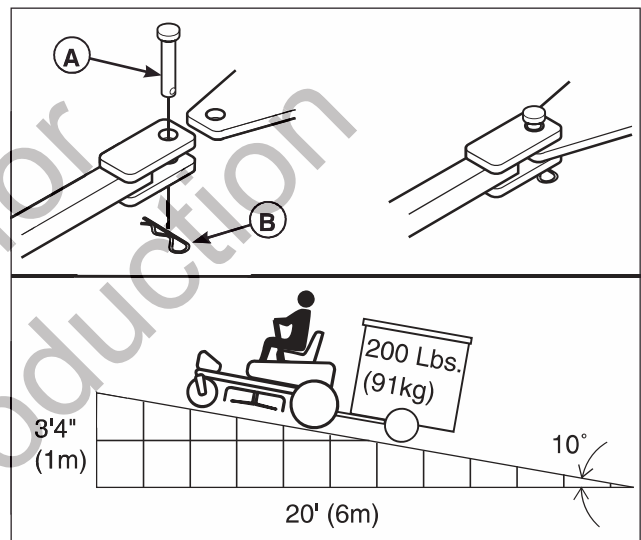

Figure 10. Trailer Weight Recommendations
The maximum weight of a towed trailer should be less than 200 lbs (91kg). Secure the trailer with an appropriately sized clevis pin (A, Figure 10) and clip (B).